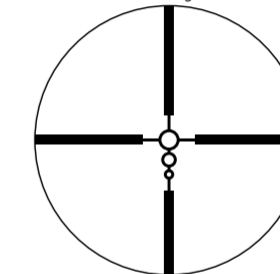

Fig. 3
(1) Focusing
- 1 Look through the eyepiece with your eye positioned about 4 in (10 cm) away from the eyepiece to see the BDC Active Target reticle (Fig 3). Be sure your eye is positioned with proper alignment and with proper eye relief, otherwise the view will “black out.”
(2) Magnification